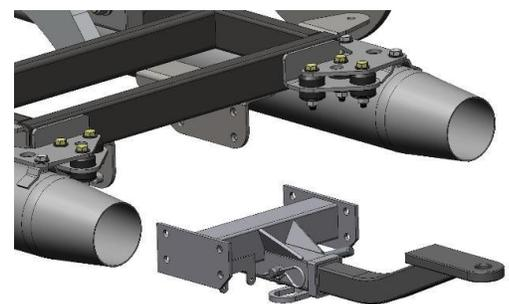

Figure 33
- a. Install hitch receiver to body frame with supplied eight 5/16"-18 x 1" L Hex Bolts and 5/16" SAE Flat Washers. **Figure 33**